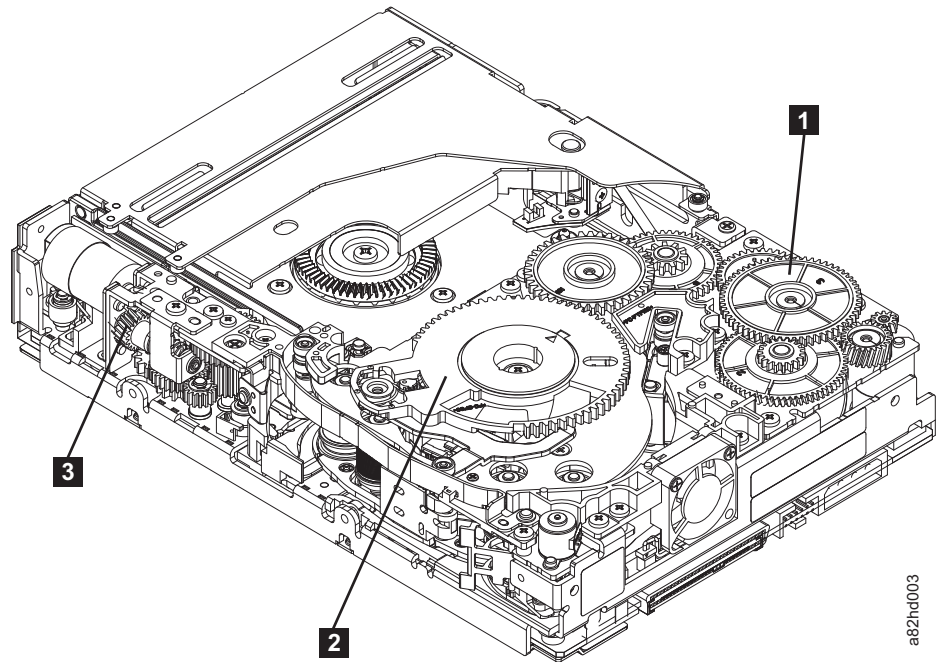

Figure E-12. Drive with cover removed to reveal gear train.
4. Locate the threader intermediate gear (**1** in Figure E-12 on page E-13) near the rear of the drive. You can use your finger to rotate the threader intermediate gear (**1** in Figure E-12 on page E-13) and slowly rotate the threader mechanism gear (**2** in Figure E-12 on page E-13) clockwise. This draws the tape leader block assembly (LBA) into the cartridge.
5. As the leader pin is secured in the cartridge, you should hear the leader pin retention spring clips click into place. If you do not hear the click, continue rolling until the threader intermediate gear (**1** in Figure E-12) stops. The LBA is in the correct position.